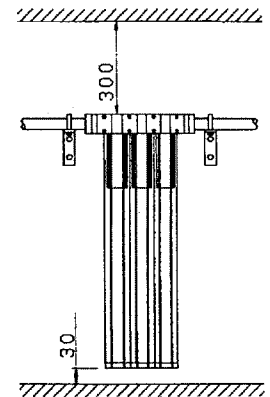
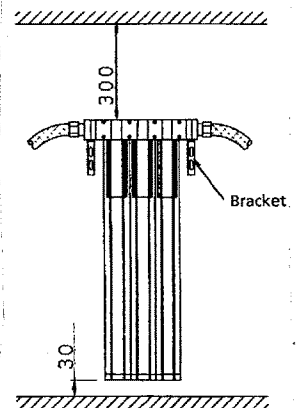

Fig.4
Fig.5
- 1) Both inlet and outlet pipes must be fixed, when the super dryer will be used as suspended by pipes, or a filter will be installed before or after itself. See figure 4. The dryer body can be fixed with brackets, also. See figure 5.
(Refer to fig.4)